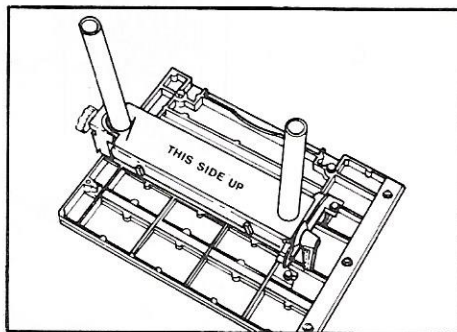

Figure 6. Positioning the template.
b. Place the template over both table tubes with the words "THIS SIDE UP" facing up and the angled slot at the out-feed tube. (See Figure 6.)